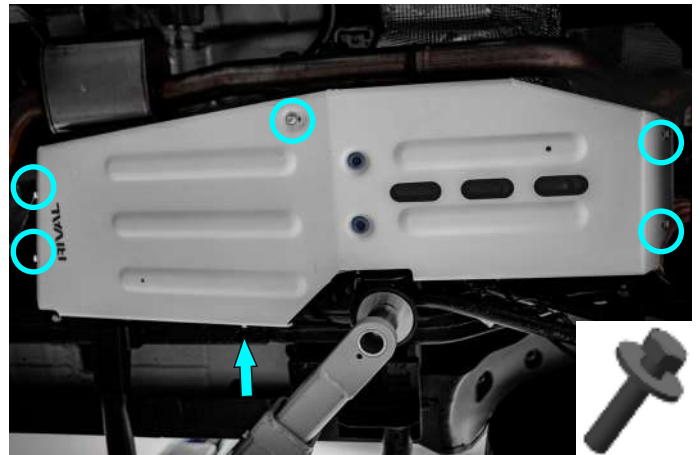

Fig. 8
8. Secure the fuel tank skid plate (item 1) to previously installed brackets using M8x25 bolts (item A) and M8 washers (item C) as shown in fig.8. It may be necessary to manipulate the brackets to line up the mounting holes.